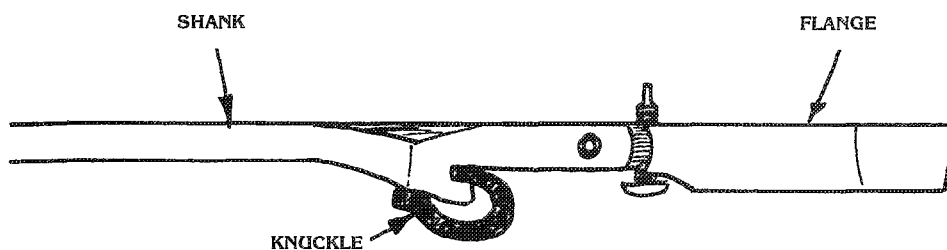
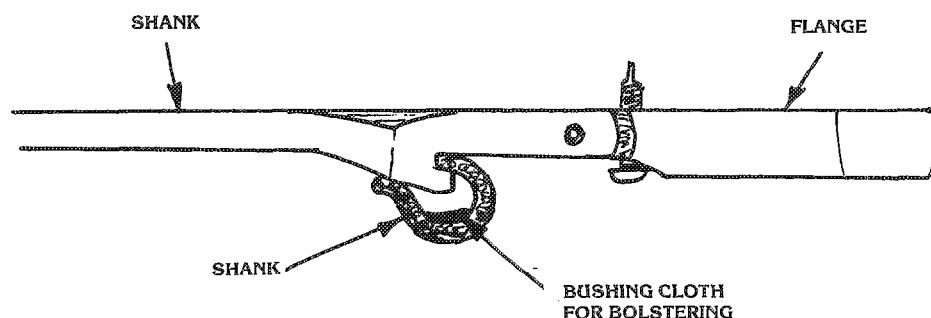

Figure 3
Figure 4
**ANSWER:** The old Howard knuckles (see **Figure 3**) are known as "pear-shaped knuckles" in some circles because of the way they look. They were made as an integral part of the shank, without a separate core. The critical surface, which is the area touched by the jack, should be smoothly rounded. If it is not, it would be entirely proper to bolster these knuckles with bushing cloth as shown in **Figure 4**. That procedure is better, in my opinion, than bolstering with wool yarn, which has a tendency to make the buckskin somewhat lumpy.